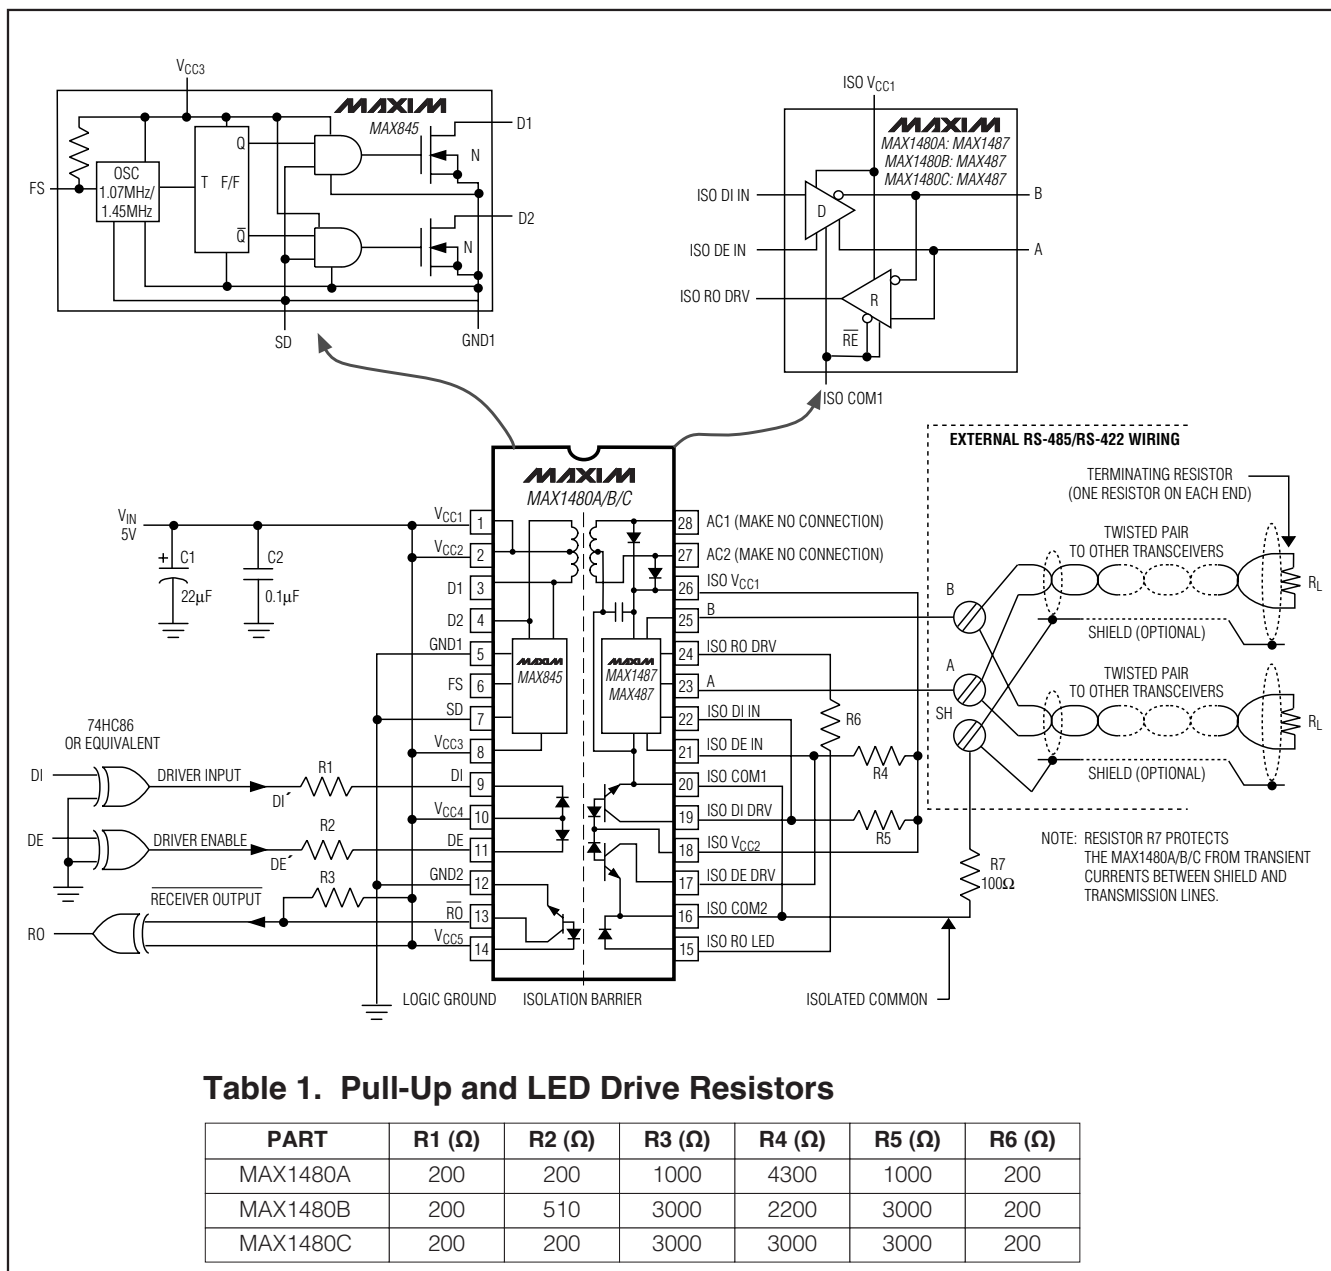
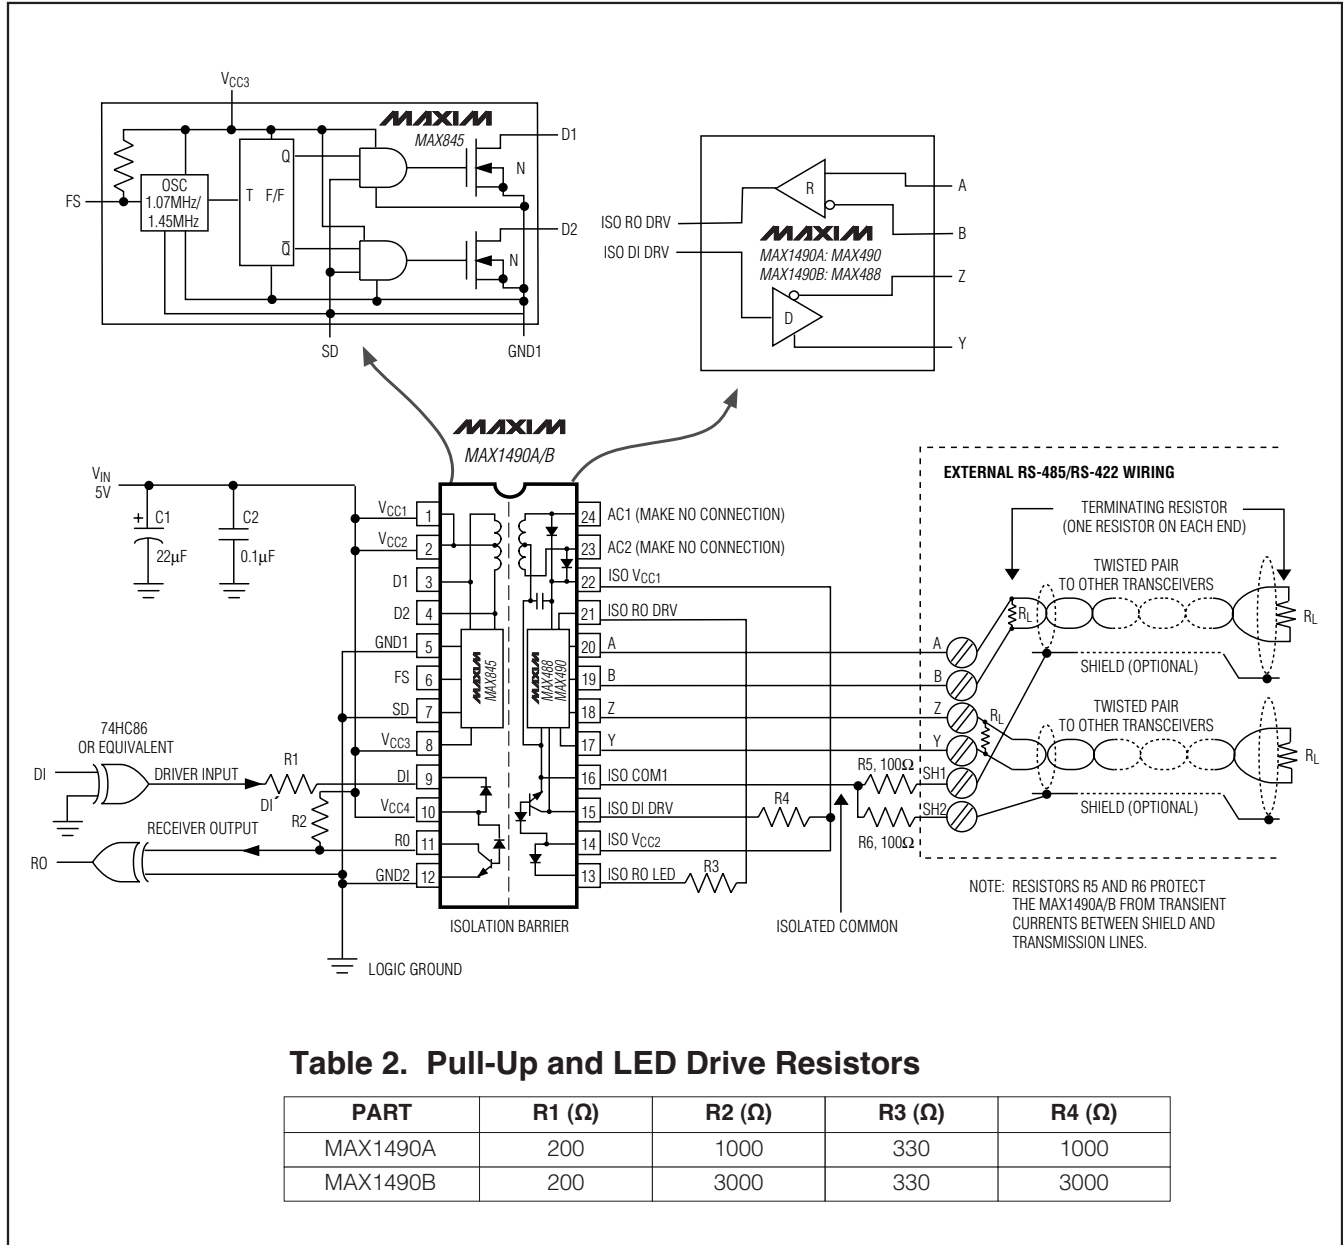

Figure 1. MAX1480A/MAX1480B/MAX1480C Detailed Block Diagram and Typical Application Circuit
Figure 2. MAX1490A/MAX1490B Detailed Block Diagram and Typical Application Circuit
| 9                                       | 9           | DI         | Driver Input. With DE + high (MAX1480A/B/C only), a low on DI + forces output A low and output B high. Similarly, a high on DI + forces output A high and output B low. Drives internal LED cathode through a resistor (Table 1 of Figure 1 for MAX1480A/B/C, Table 2 of Figure 2 for MAX1490A/B).                                                                                                                                       |
| 11                                      | —           | DE         | Driver-Enable Input. The driver outputs, A and B, are enabled by bringing DE + high. The driver outputs are high impedance when DE + is low. If the driver outputs are enabled, the device functions as a line driver. While the driver outputs are high impedance, the device functions as a line receiver. Drives internal LED cathode through a resistor (Table 1 of Figure 1).                                                                  |
| —                                       | 11          | RO         | Receiver Output. If A > B by 200mV, RO will be high; if A < B by 200mV, RO will be low. Open collector; must have pullup to VCC (Table 2 of Figure 2).                                                                                                                                                                                                                                                                                                                    |
| 13                                      | —           | RO         | Receiver Output. If A > B by 200mV, RO will be low; if A < B by 200mV, RO will be high. Open collector; must have pullup to VCC_ (Table 1 of Figure 1).                                                                                                                                                                                                                                                                                                                   |
| 15                                      | 13          | ISO RO LED | Isolated Receiver Output LED. Internal LED anode in MAX1480A/B/C and LED cathode in MAX1490A/B. Connect to ISO RO DRV through a resistor (Table 1 of Figure 1 for MAX1480A/B/C; Table 2 of Figure 2 for MAX1490A/B).                                                                                                                                                                                                                                                      |
| 17                                      | —           | ISO DE DRV | Isolated Driver-Enable Drive. The driver outputs, A and B, are enabled by bringing DE + high. The driver outputs are high impedance when DE + is low. If the driver outputs are enabled, the device functions as a line driver. While the driver outputs are high impedance, the device functions as a line receiver. Open-collector output; must have pullup to ISO VCC_ and be connected to ISO DE IN for normal operation (Table 1 of Figure 1). |
| 19                                      | 15          | ISO DI DRV | Isolated Driver-Input Drive. With DE + high (MAX1480A/B/C only), a low on DI + forces output A low and output B high. Similarly, a high on DI + forces output A high and output B low. Connect to ISO DI IN (on the MAX1480A/B/C only) for normal operation. Open-collector output; connect a pullup resistor to ISO VCC_ (Table 1 of Figure 1 for MAX1480A/B/C; Table 2 of Figure 2 for MAX1490A/B).                                    |
| 20                                      | 16          | ISO COM1   | Isolated Common. For MAX1480A/B/C, connect to ISO COM2 (pin 16) (Figures 1 and 2).                                                                                                                                                                                                                                                                                                                                                                                        |
| 24                                                  | 21         | ISO RO DRV | Isolated Receiver-Output Drive. Connect to ISO RO LED through a resistor (Table 1 of Figure 1 for MAX1480A/B/C, Table 2 of Figure 2 for MAX1490A/B). |
**Note:** For DE+ and DI+ pin descriptions, see *Detailed Block Diagram and Typical Application Circuit* (Figure 1 for MAX1480A/B/C, Figure 2 for MAX1490A/B).
The MAX1480A/MAX1480B/MAX1480C/MAX1490A/MAX1490B are complete, electrically isolated, RS-485/RS-422 data-communications interface solutions. Transceivers, optocouplers, a power driver, and a transformer in one standard 28-pin DIP package (24-pin for the MAX1490A/B) provide a complete interface. Signals and power are internally transported across the isolation barrier (Figures 1, 2). Power is transferred from the logic side (nonisolated side) to the isolated side of the barrier through a center-tapped transformer. Signals cross the barrier through high-speed optocouplers. A single +5V supply on the logic side powers both sides of the interface. The MAX1480A/B/C offer half-duplex communications while the MAX1490A/B feature full-duplex communication. The functional input/output relationships are shown in Tables 3–6.
\* For DE' and DI' pin descriptions, see Detailed Block Diagram and Typical Application Circuit (Figure 1 for MAX1480A/B/C, Figure 2 for MAX1490A/B).
The MAX1480A/MAX1480B/MAX1480C/MAX1490A/MAX1490B are specified and characterized using the resistor values shown in Table 1 of Figure 1 and Table 2 of Figure 2. Altering the recommended values can degrade performance.
The isolated common may be completely floating with respect to the logic ground and the effective network ground. The receiver input resistors will cause the isolated common voltage to go to the mean voltage of the receiver inputs. If using shielded cable, connect the isolated common to the shield through a 100Ω resistor. In the case of the MAX1490, each shield should have its own 100Ω resistor (Figures 1, 2, 13, and 14).